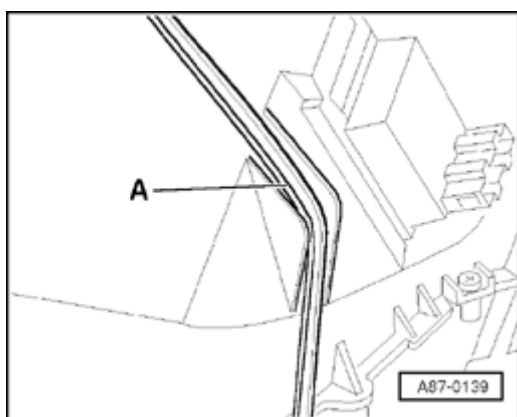

Fig. 1 Tensioning strap, installing
- ◆ Must be installed correctly ⇒ Fig. 1.